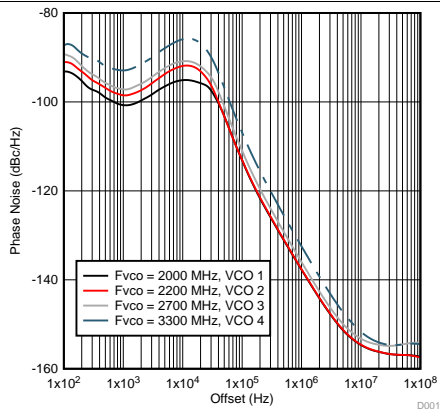

Figure 4. Closed Loop Noise for Narrower Bandwidth Filter
**Figure 4** shows the phase noise for a filter optimized for spurs with a 20 MHz phase detector and running in fractional mode with strong dithering. Due to the narrower loop bandwidth, the impact of the VCO phase noise inside the loop bandwidth is in the 1 to 10 kHz region.